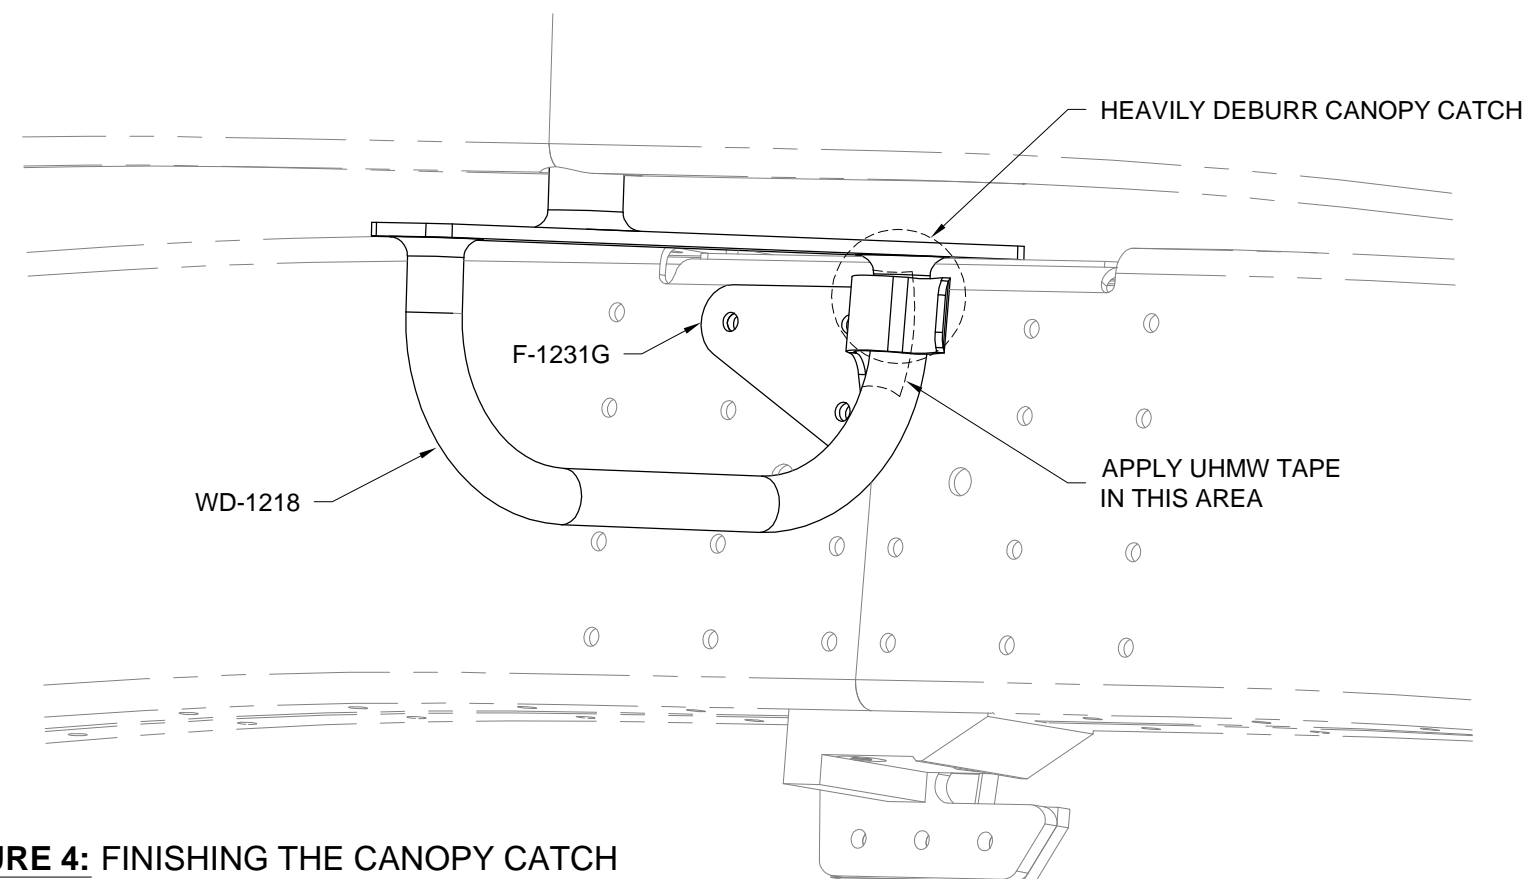

FIGURE 4: FINISHING THE CANOPY CATCH
Step 2: Locate the F-1231G Canopy Catch and heavily deburr all edges in the area shown in Figure 4.